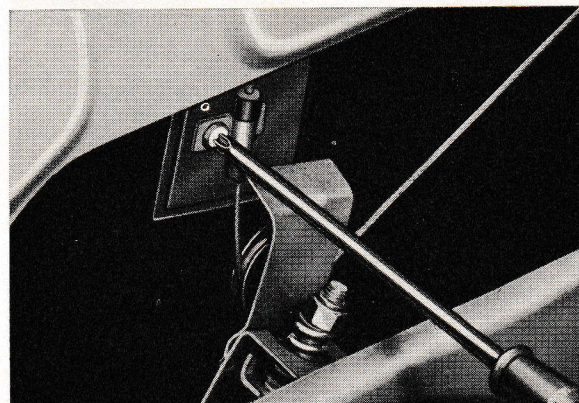

Fig. 19. Removing the carrier keeper.
1. Remove the keeper which holds the carrier on the winding cable to the winding rail under the window and lift this up, see Fig. 19. There is no carrier on the rear doors and the keeper lies directly against the winding chain.